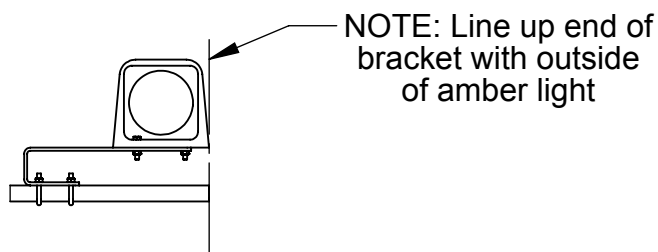

Fig 1. When charging the circuit, prop up cylinder with block of wood. Be sure the rod can extend freely without striking anything.
1. Prop up the cylinder with a block of wood (Fig 1). Check to see that the rod will extend completely without striking anything.